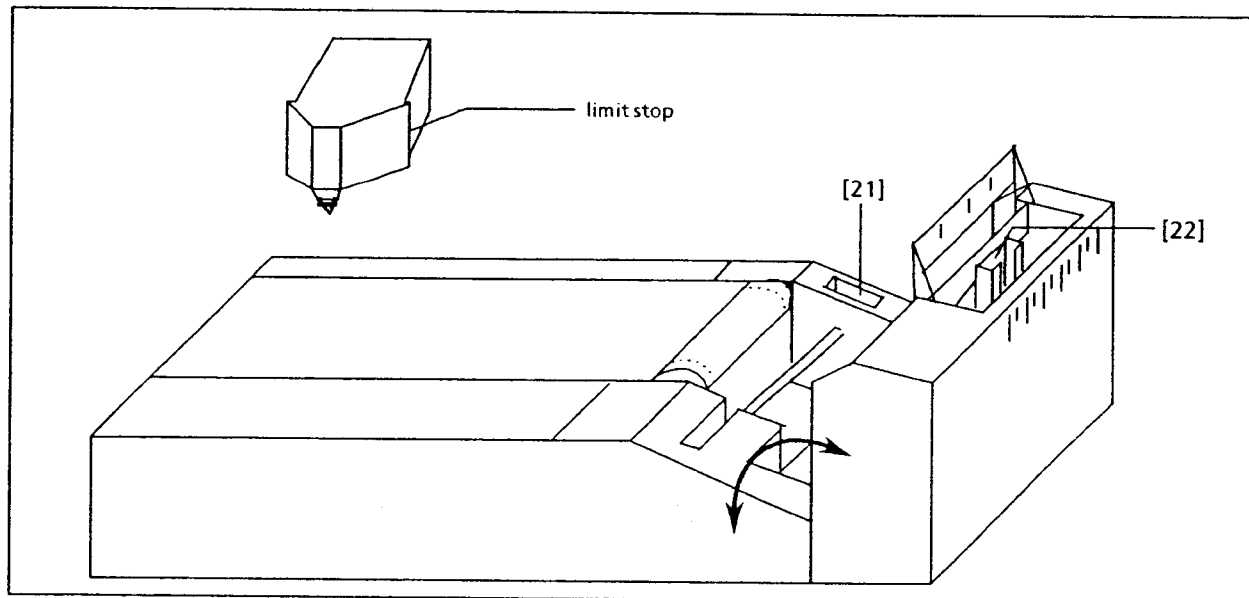

Fig. 2.6. Pen stall and pen
- remove pen cap from the pen; store it in the pen stall [21] (see fig. 2.6.).